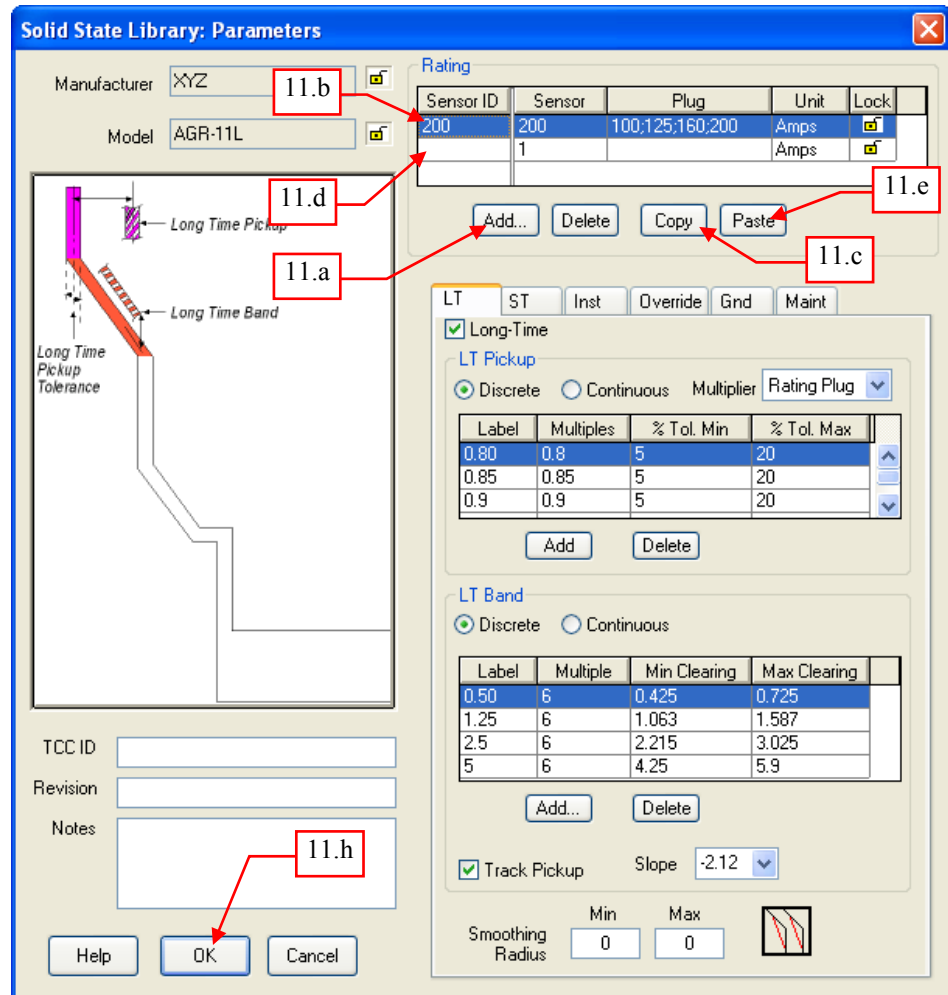

Fig. 12
11. The time current characteristic curves are common to all CT rating [200A, 400A, 800A, 1250A, 1600A, 2000A, 2500A, 3200A, 4000A]. Since the “200” rating has already been registered, you may just copy this one to complete the rest. See Fig. 12.